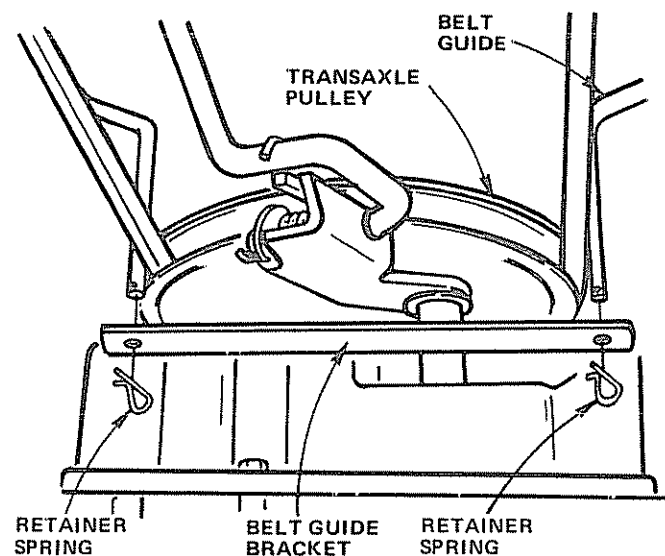

FIGURE 45
- Remove two Retainer Springs from Belt Guide Bracket below Transaxle Pulley. Remove Bracket (Fig. 45).
- Swing Belt Guides away from Belt, toward rear of tractor (Fig. 45).